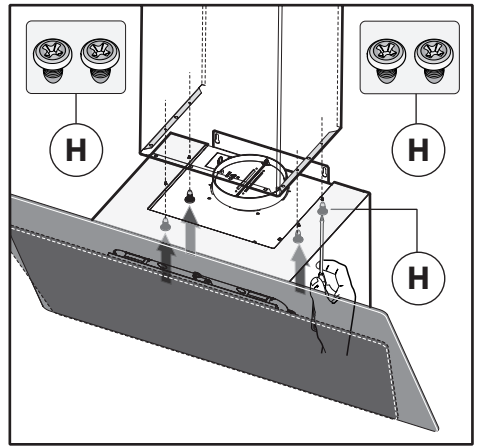

Fig.9B
- Secure the lower decorative chimney to the hood using the supplied screws **H** (Fig.9B).